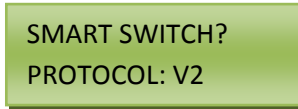

Figure 16.1
- a. This Action allows Time-Keeper® to support 32 Control Stations under Version 1 and to support 50 Control Stations under Version 2. To change the Version, press the RIGHT Arrow. Make sure to press ENTER to save the information. See Figure 16.1 for a visual example.